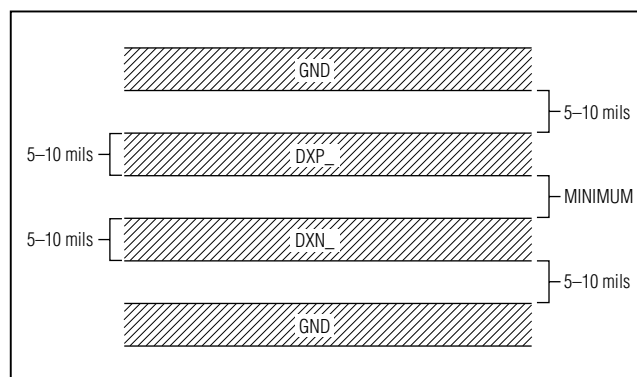

Figure 5. Recommended DXP₋/DXN₋ PCB Traces. The two outer guard traces are recommended if high-voltage traces are near the DXN₋ and DXP₋ traces.
- 3) Route the DXP₋ and DXN₋ traces in parallel and in close proximity to each other. Each parallel pair of traces should go to a remote diode. Route these traces away from any higher voltage traces, such as +12V DC. Leakage currents from PCB contamination must be dealt with carefully since a 20MΩ leakage path from DXP₋ to ground causes approximately +1°C error. If high-voltage traces are unavoidable, connect guard traces to GND on either side of the DXP₋/DXN₋ traces (Figure 5).